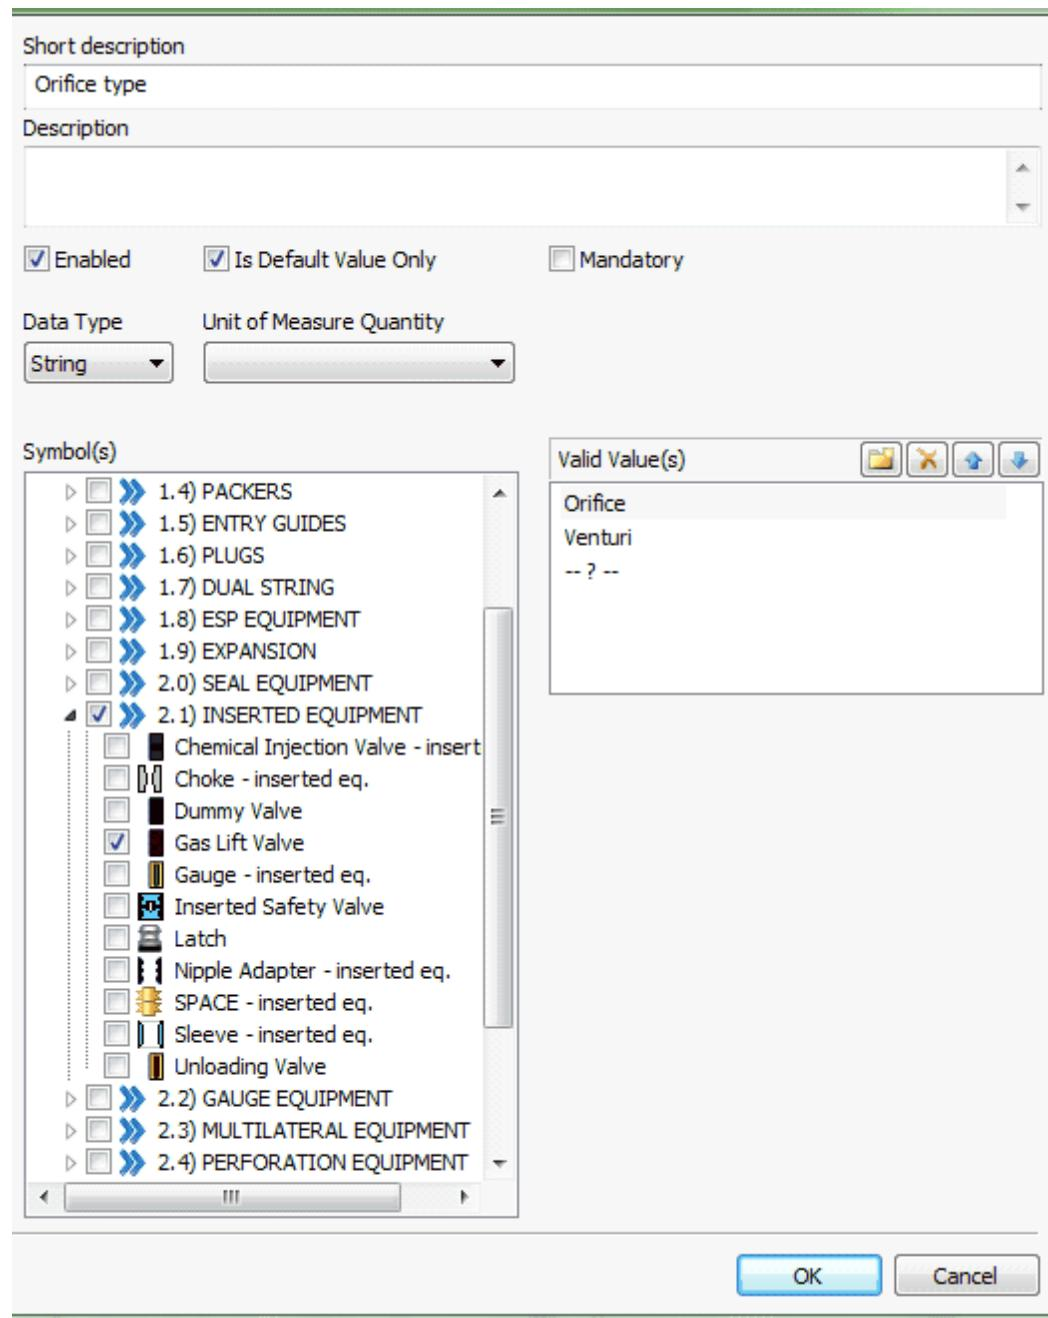

Figure 4. For default values.
2. We want to add Orifice Type as a dynamic attribute. This has default values as followed *Orifice* and *Venturi*. Select Enabled and Is Default Value Only. Thus, these 3 options can be modified and selected when creating and using an existing part. Add the 2 options under Valid Values, by clicking the **folder icon**. Furthermore; select String under Data type, for drop down choices. Leave Unit Measure Quantity blank. All is shown in Figure 4.
seen in figure 4. It is not always the case that orifice types would be available for all gas lift valves. Choose this option too for a similar matter.